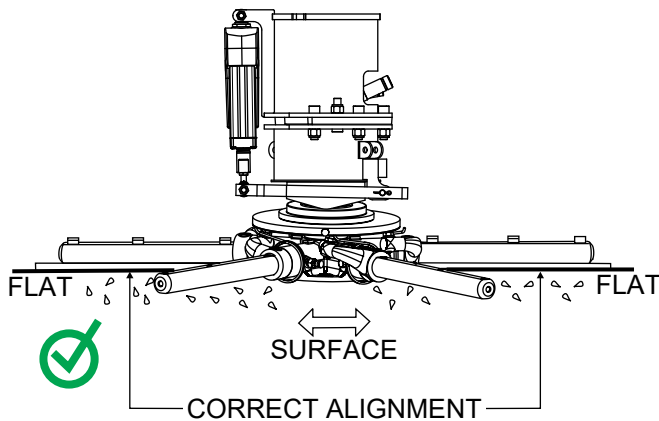

Figure 70. Correct Spider Plate Alignment
2. Pitch the blades as flat as possible. The adjustment bolts should all barely make contact with the lower wear plate on the spider. Figure 70 illustrates the correct alignment for a spider plate as shipped from the factory.